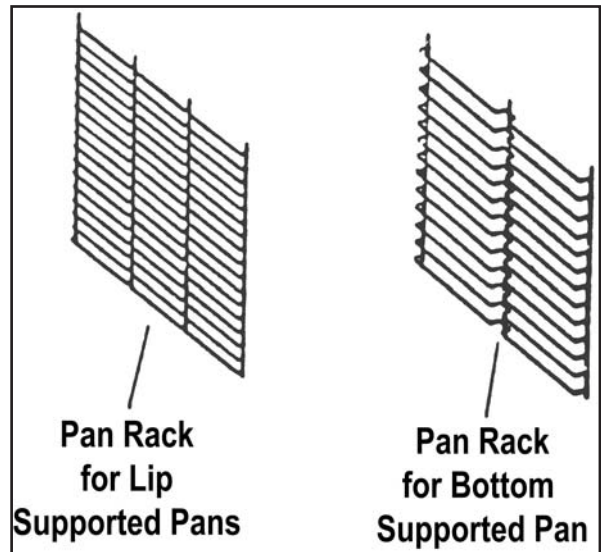

Figure 2-7
b. Steel Rod Type Pan Slide Racks (Refer to Figure 2-7)